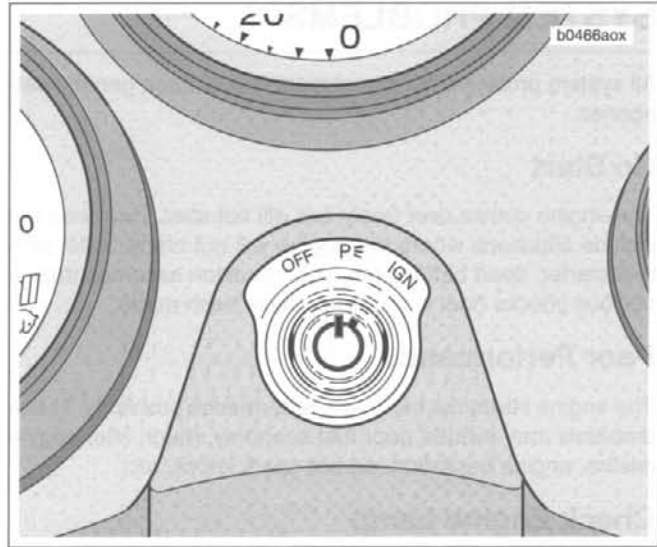

Figure 4-4. Ignition Key Switch
- See Figure 4-4. All references to "Key ON" or "Ignition Switch ON" require that the ignition key be in the IGN position and the engine stop switch be set to RUN.